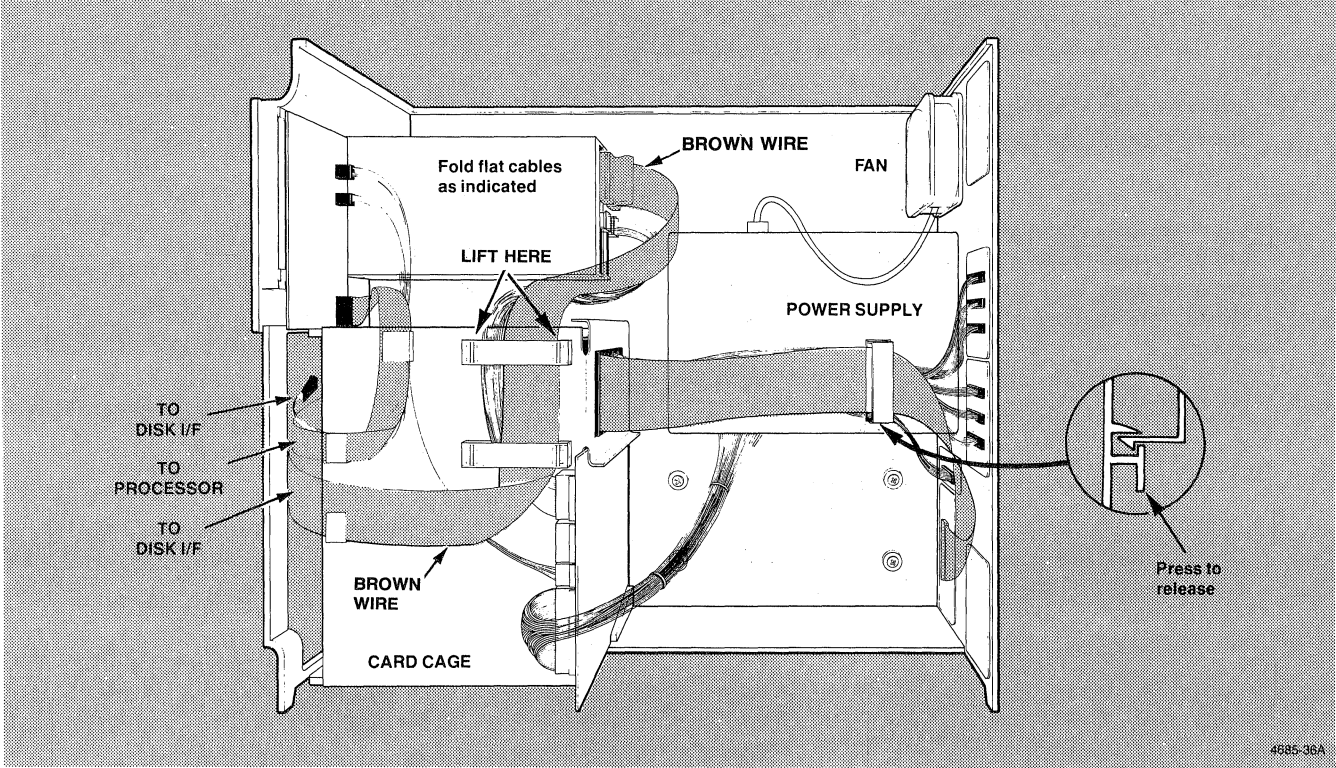
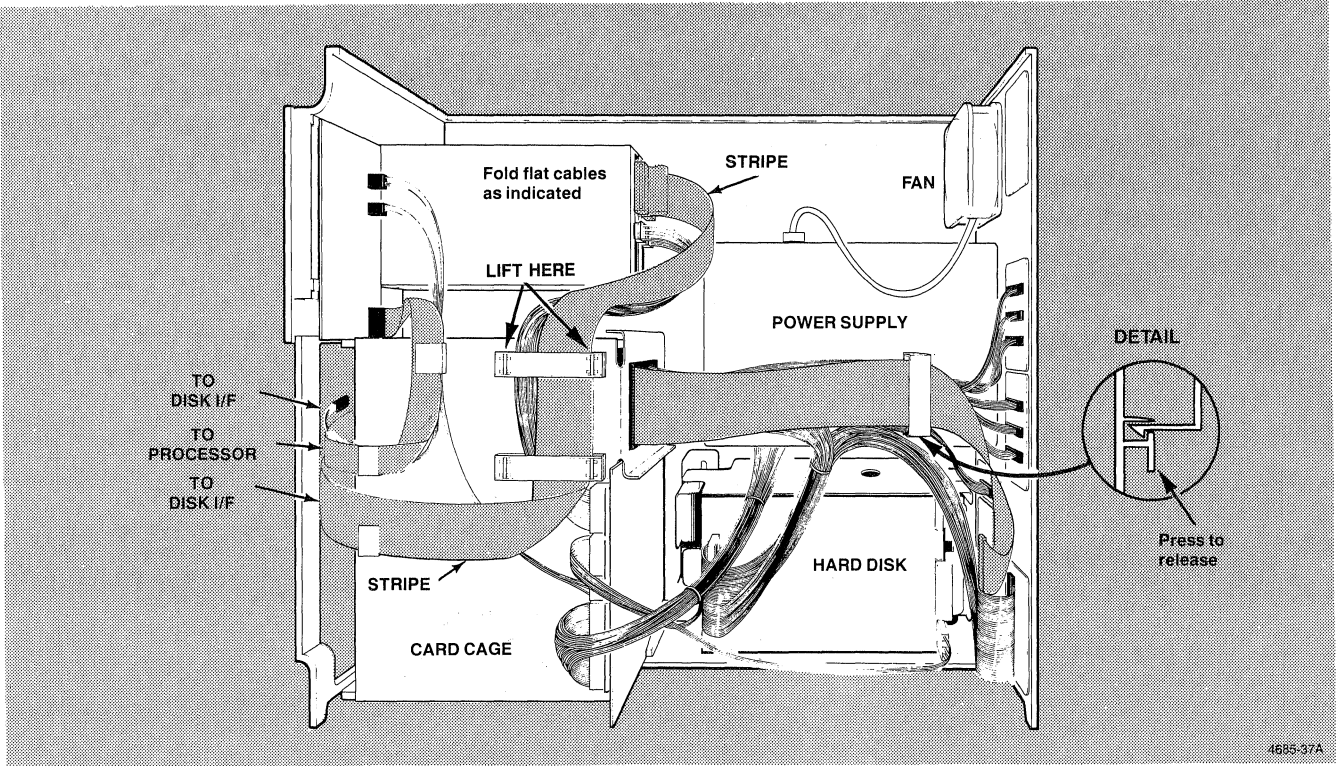

Figure 4-5. Cable Routing (Without Hard Disk).
Figure 4-6. Cable Routing (With Hard Disk).
- L. Route cables through cable clamps as shown in Figure 4-5 if you do not have a Hard Disk. Route cables as shown in Figure 4-6 if you have a Hard Disk.